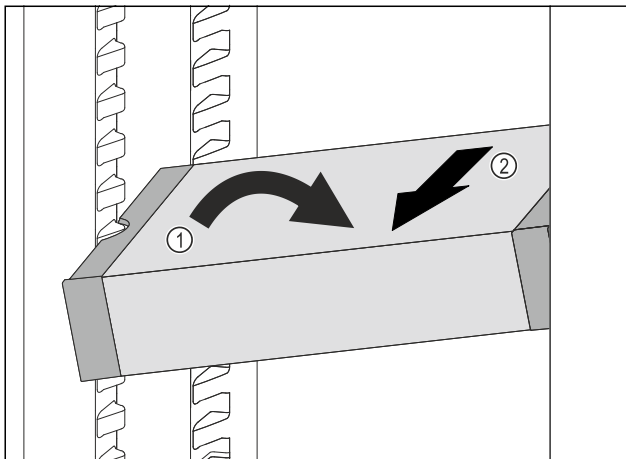

Fig. 66
- ▶ Set VarioSafe in refrigerator compartment at an angle. Fig. 66 (1)
- ▶ Take VarioSafe out to the front. Fig. 66 (2)